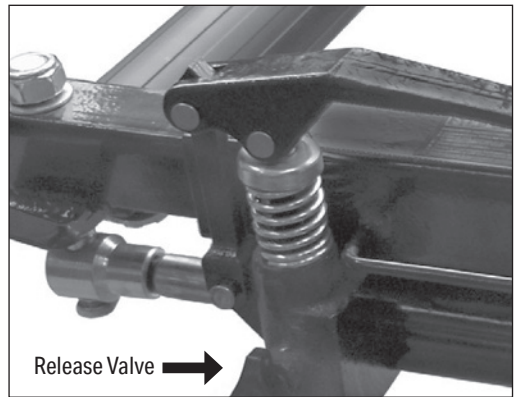

Fig.2
5.2 Bled the Skate before operating - Fig. 2